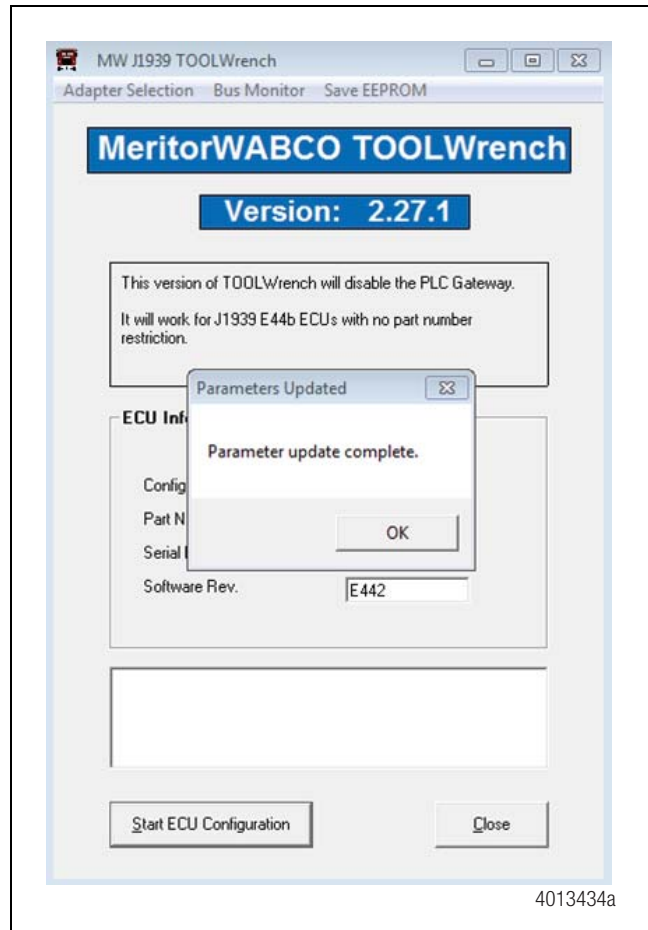

Figure 4
11. Click on the “Start ECU Configuration” button. Figure 4.
12. When the parameter update has been completed successfully, the notification shown in Figure 4 will be displayed. Click “OK”.